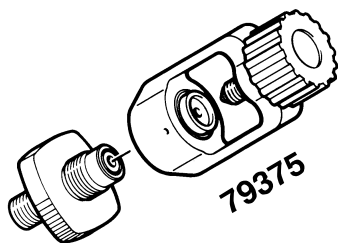

Fig. 10 International filling connector
- Air bottles with international filling connector can be connected with filling adaptor (PN 79375) to the German filling connector (see Fig. 10).